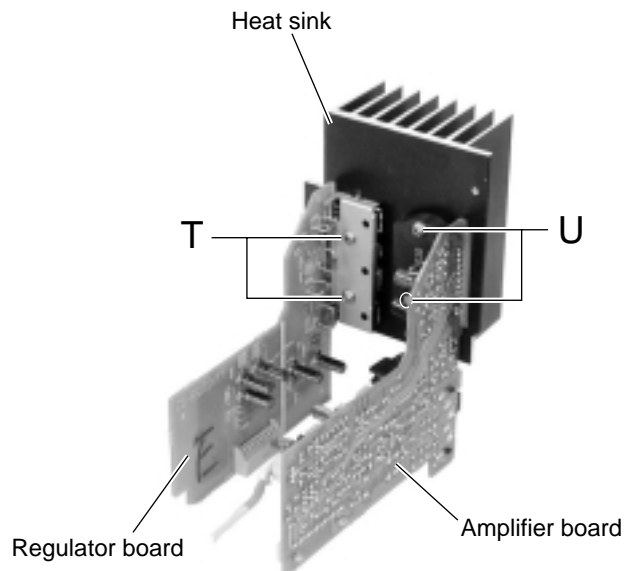

Fig.21
■ Removing the regulator board / the amplifier board (See Fig.21)